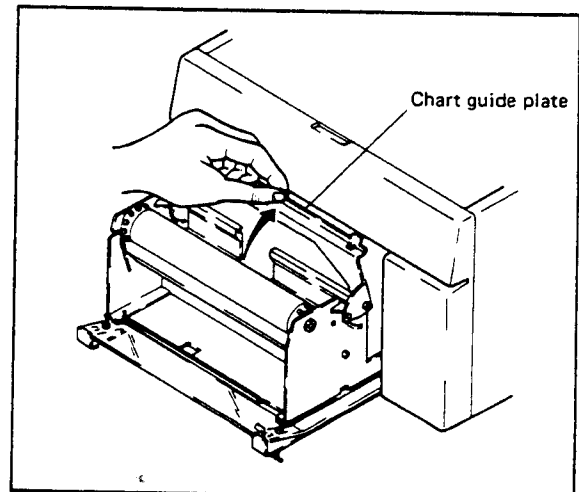

Figure 7-3.
- (6) There is a chart guide plate on the top of the chart drive mechanism. Swing open the chart guide plate upward and you can see the chart compartment in it (see Figure 7-3).